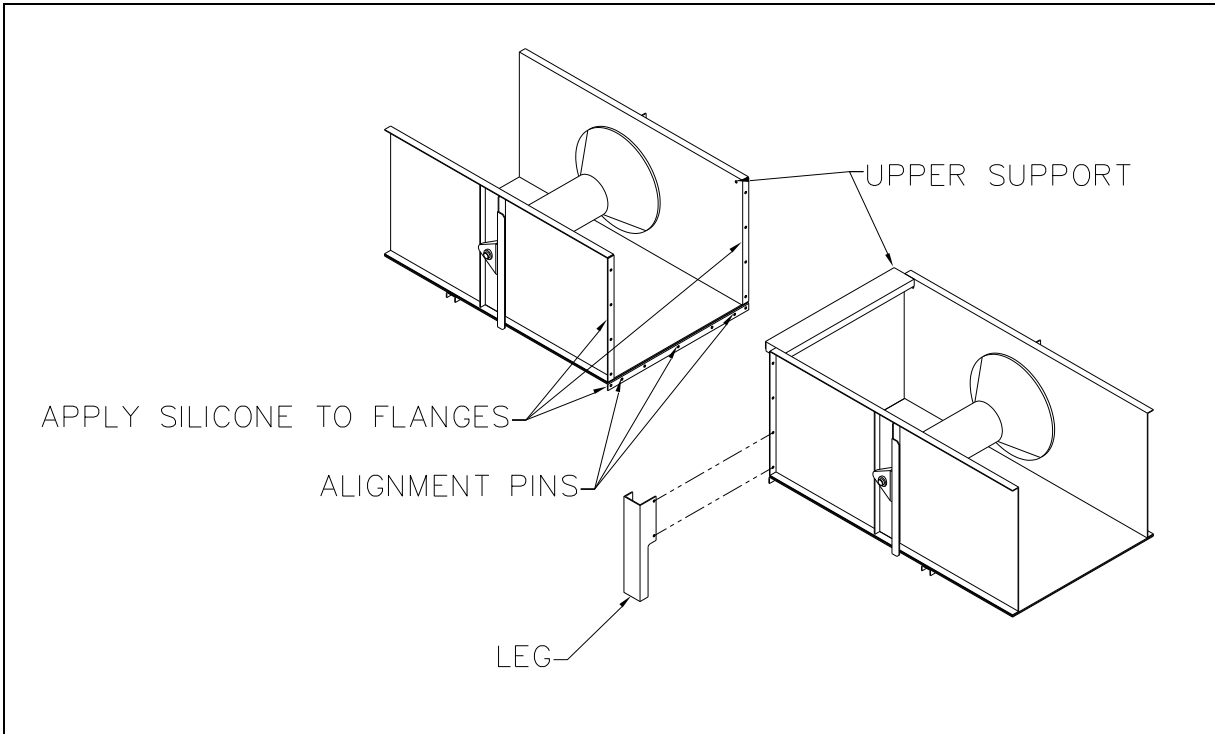

Figure 2.4 Conveyor Section Assembly
- D. Referring to **Figure 2.4**, notice also that the bottom flanges of each conveyor section have several 3/8" diameter holes. As each conveyor section is assembled to the preceding section, drive bull-nose alignment pins through the matching pairs of the smaller 3/8" diameter holes. This arrangement insures that liners of adjoining conveyor sections form a smooth, even surface with no lip or ledge in which the belt might otherwise catch. Use a straightedge to verify that the liner surfaces of adjoining conveyor sections are even. If they are not, find and correct the problem.
- E. Attach a pair of the optional support legs and complete fastening the two conveyor sections together as shown in **Figure 2.4**. Support legs are optionally furnished in right-hand/left-hand sets. One set is required at each conveyor section joint to insure proper alignment and support.